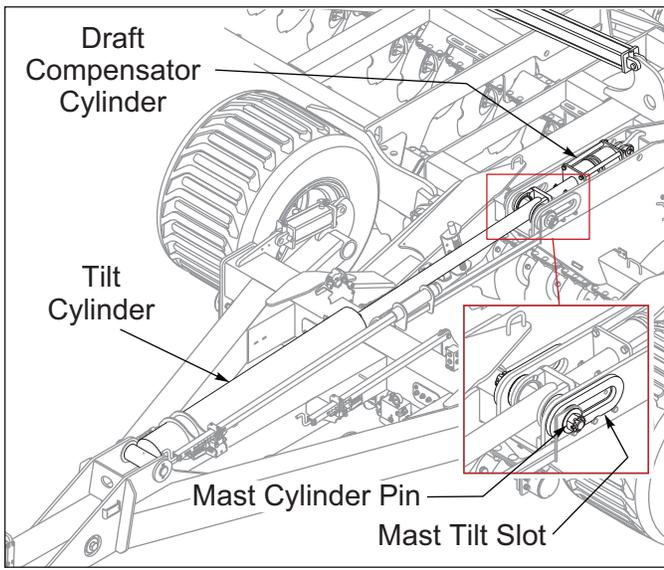

Figure 4-11: Draft Compensator Cylinder
- The pressure gauge indicating the stored energy within the system should be checked daily when the Draft Comp Cylinder is fully extended (Mast Cylinder Pin is at its most forward position in the Mast Tilt Slot.) *See Figure 4-11.*